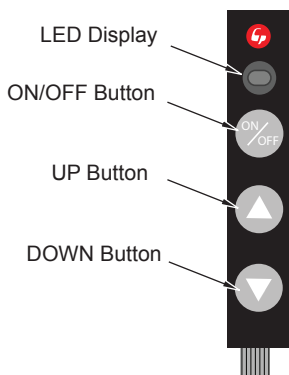

Figure 61 - Touch Pad Control
This touch control has only 3 buttons for controlling manually the flame of the appliance (see Figure 61).
1. To increase the flame level, press the up button (▲). A beep and a flash of the LED indicate that the system has accepted the order, and the flame will increase instantly (see Figure 61).
2. To decrease the flame level, press the down button (▼). A beep and a flash of the LED indicate that the system has accepted the order, and the flame will decrease instantly (see Figure 61).